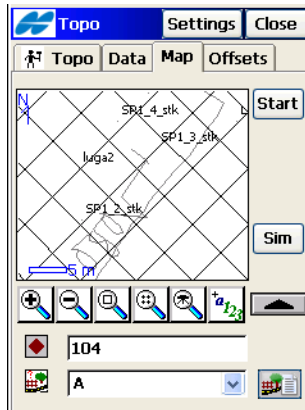

Figure 9-16. Grid in Map
- **OK** – displays the grid on the *Map* tab (Figure 9-16) with the specified settings.